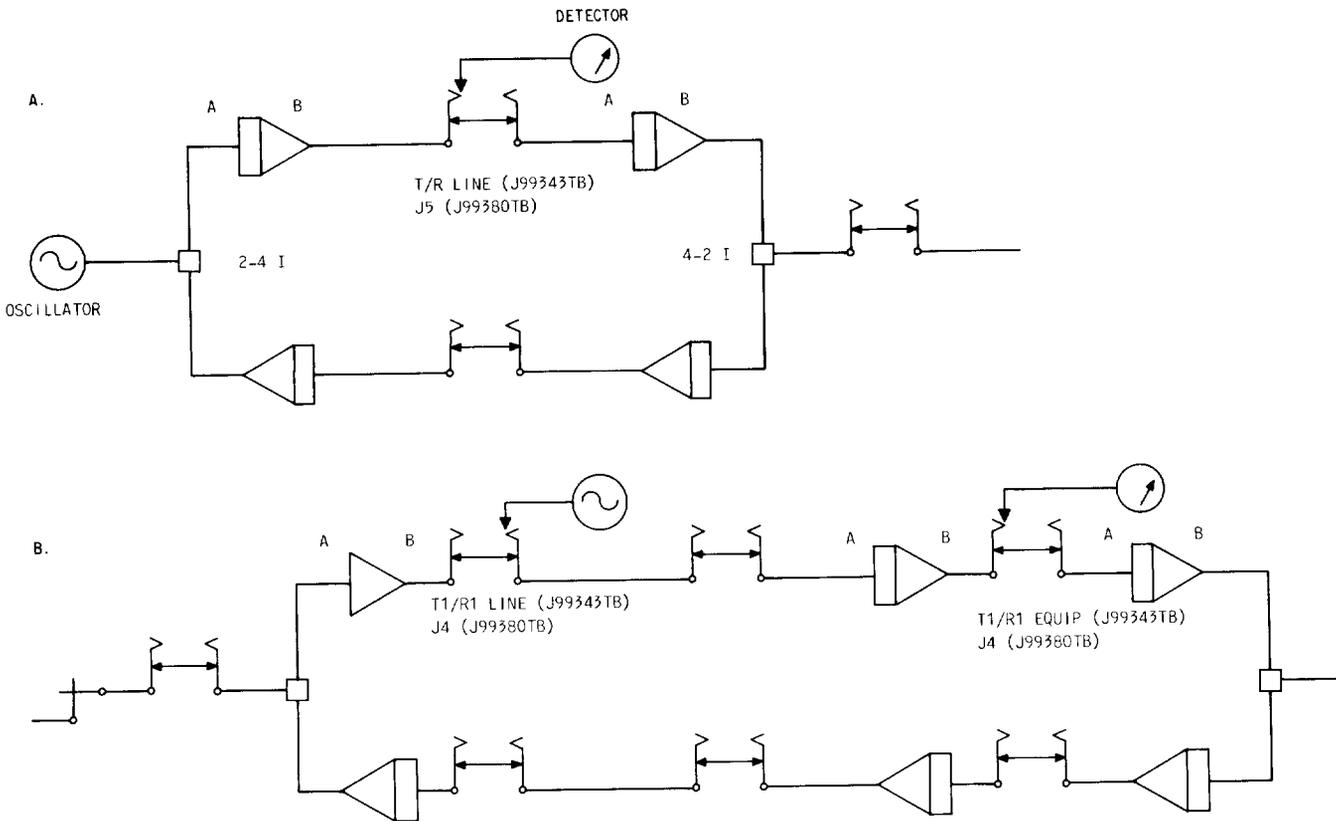

Fig. 20—Oscillator and Detector Connections for Loss Measurements of Typical Circuits
4.25 Since the equalizers are set in pairs, only one facility need be measured per equalizer pair. Figure 20 illustrates the four types of equalizer configurations for 4-wire repeaters. The cases shown can be combined to form any 4-wire circuit with a 2-wire extension employing the 4-2 and 2-4 repeaters covered in this section
4.27 Figure 20 shows the test access for making loss measurements of typical circuits. Figure 20A contains only 2-4 and 4-2 repeaters; Figure 20B also contains a 4-4 intermediate repeater. Note that the A-side and B-side designations chosen for this example are arbitrary and do not dictate how this type of circuit should be wired.
2	If the facility to be measured is on the A-side, connect a 900-ohm oscillator to the T1/R1 LINE jack of J99343TB or to J8 of the J99380TB test extender. If the facility to be measured is on the B-side, connect a 900-ohm oscillator to the T1/R1 (2W) LINE jack of J99343TB or to J4 of the J99380TB test extender as shown for Case 1 and 2 of Fig. 20.